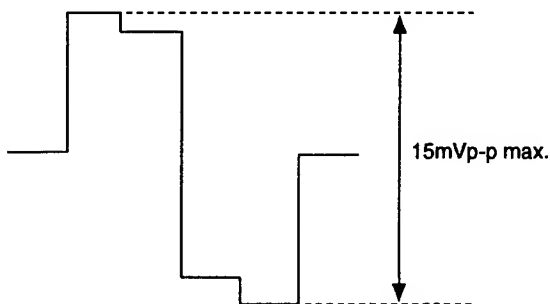

Fig. 5-11
3. Connect the probe of an oscilloscope to IC404 ③ PIN or TP402.
5. Adjust **SUB PHASE** so that the output waveform will be minimum (15 mVp-p or less). (Fig.5-11)
4. Adjust **SUB PHASE** so that the output waveform will be minimum (15 mVp-p or less). (Fig.5-11)